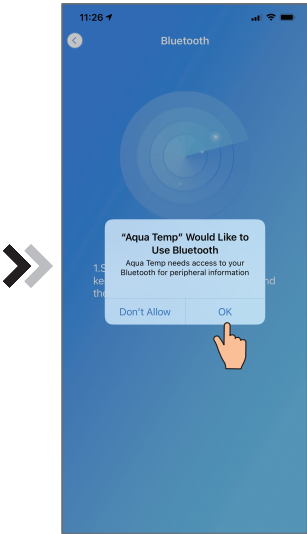

Fig.10 Allow bluetooth permission
- 4. Clic "OK" to allow bluetooth permission (Fig.10);